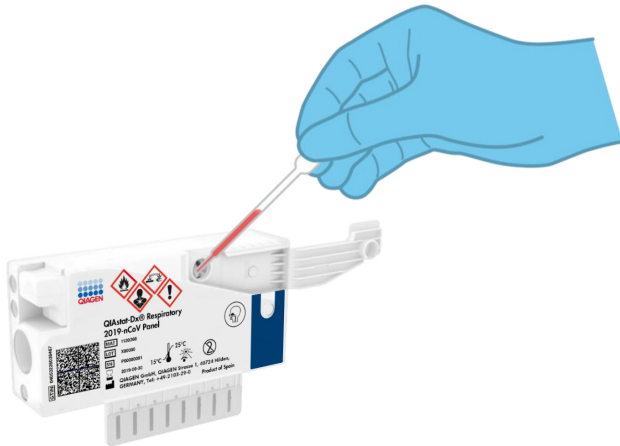

Figure 21. Transferring sample to main port of QIAstat-Dx Respiratory 2019-nCoV Panel Cartridge.
6. Carefully transfer 300 μ l of sample volume into the main port of the QIAstat-Dx Respiratory 2019-nCoV Panel Cartridge using the supplied single-use transfer pipette (Figure 21, next page).